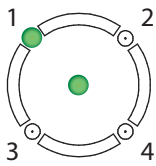

Fig. 4.2
- Once connected to the base station, the LED in the middle of the circle on the transceiver front illuminates to indicate it is turned on. One of the outer LEDs (numbered 1 to 4) around the circle also turns on (depending on which port the transceiver is connected to on the base station, Fig. 4.2 shows the RT7000 connected to the first port (J3200), also see Table 1). This outer LED will initially flash in Magenta, blue, or yellow (see Table 2) as the transceiver scans for available channels, then turn solid green once a channel is found. (On the base station HOME screen, the transceivers' indicator is yellow while scanning before turning green.)